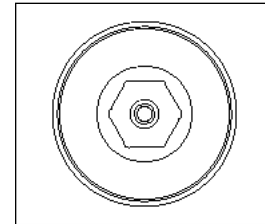

Fig. 2
4. Use an 8mm Allen wrench to move the piston up (counterclockwise) or down (clockwise). (Fig. 2)